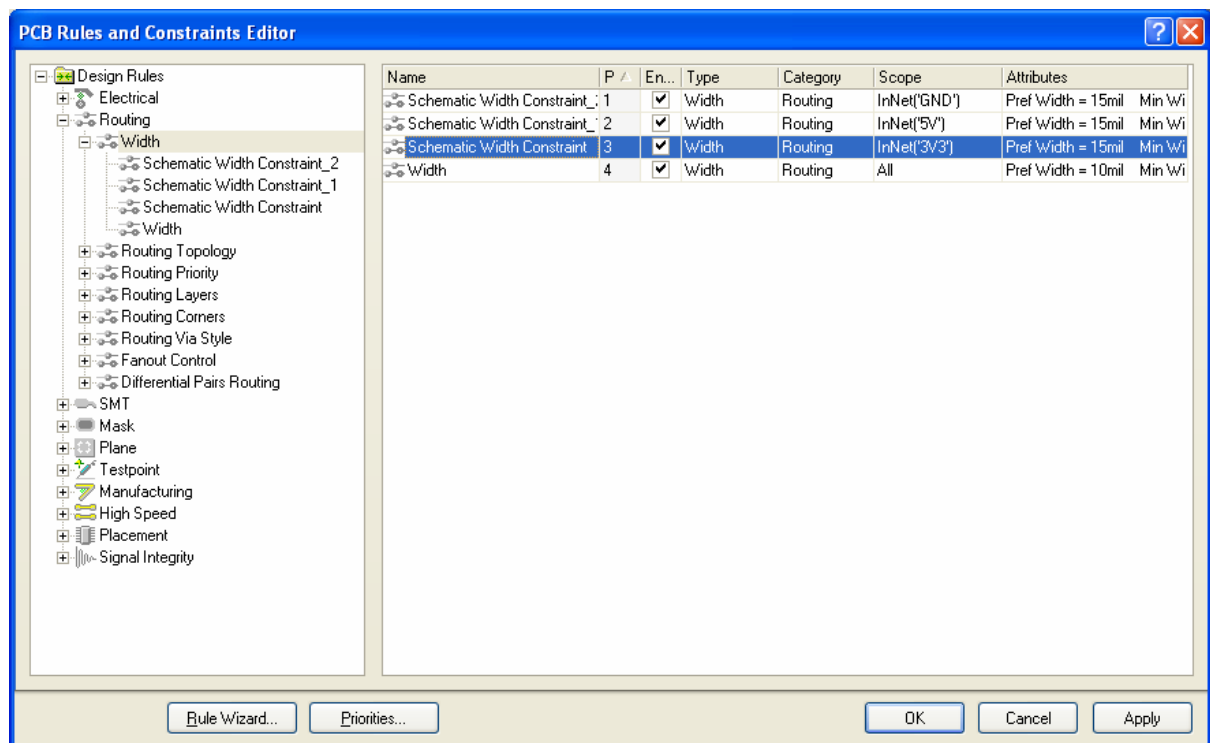

Figure 1. PCB Rules and Constraints Editor dialog.
2. Click on the next to the rule kind to display the rules of that kind that have been defined. Notice how in Figure 1 the tree is expanded to show the four Width rules.